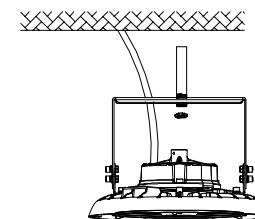

Figure 10
3. Re-screw the nuts securely (refer to Figure 10).